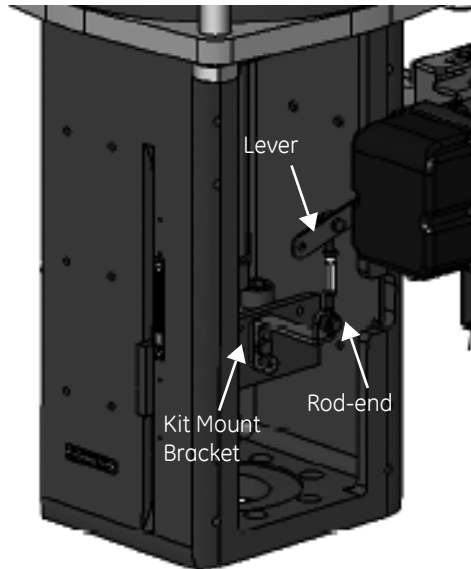

Figure 27 85/86 Valve
2. Install the mounting assembly to the yoke (Figure 27) using helical spring washer 5/16, flat washer 5/16 and hex screw 5/16-18x44.5 [1.75] LG.